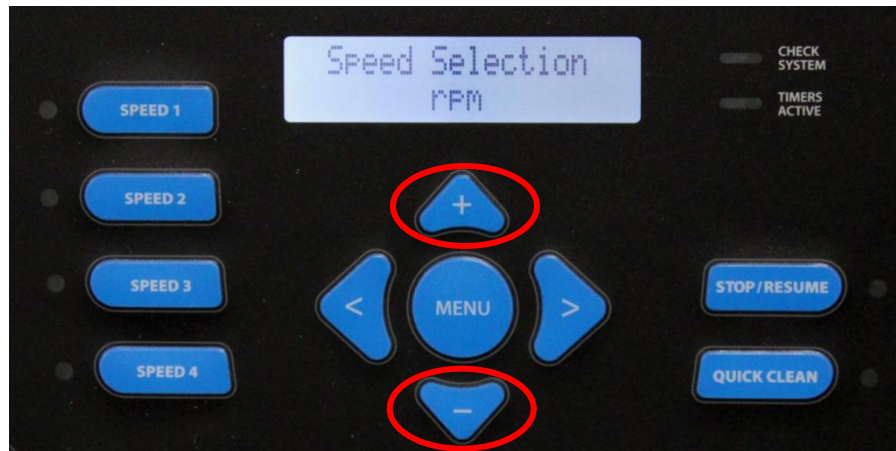

Fig 38
8. You now select the speed indicator for RPM (revolutions per minute) or % of full speed (100% equals 3450 RPM) by pressing the  &  buttons (fig 38 & 39). The setting you select will be used throughout programming. Press the  button to continue.